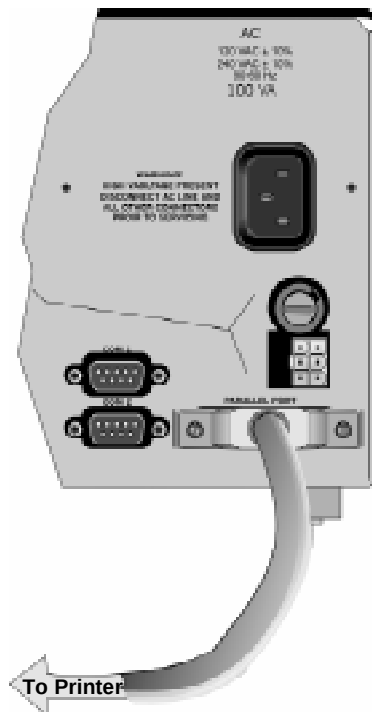

Figure 3-7 Parallel Printer Cable Connection to 9500
1. Connect the standard parallel printer cable to the parallel printer port on the back of the 9500 receiver. (See Figure 3-7.)